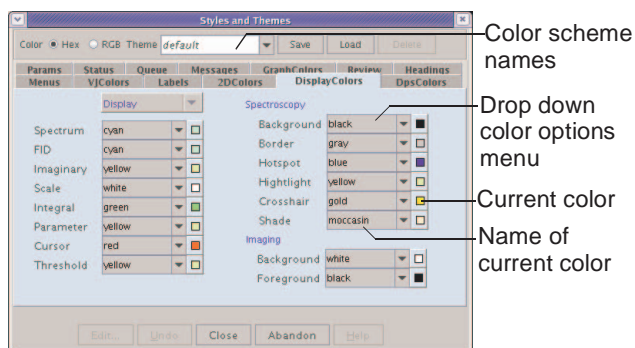

Figure 109. Setting Display Colors
3. Click on the **Display Colors** tab to show the current color scheme, see Figure 109